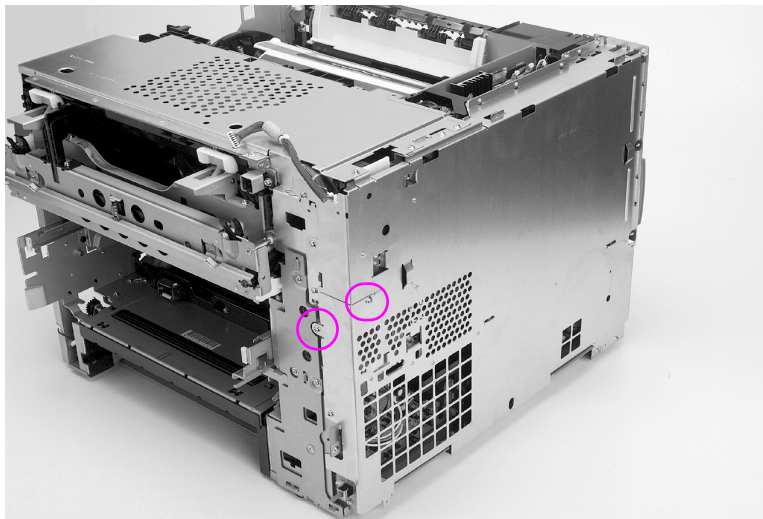

Figure 6-27 Formatter pan assembly removal and replacement (1 of 4)
- 10 Remove the two screws for the connector cover shown in Figure 6-27.